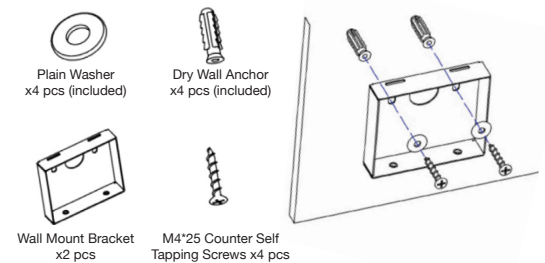

Fig. 7.2
2. Secure wall mount bracket to the wall. (Fig. 7.2)